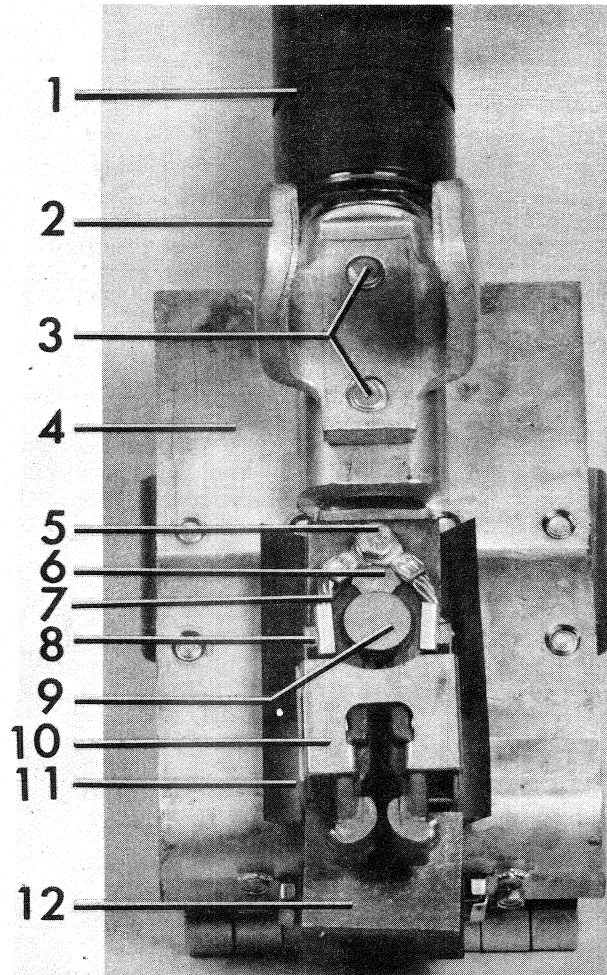
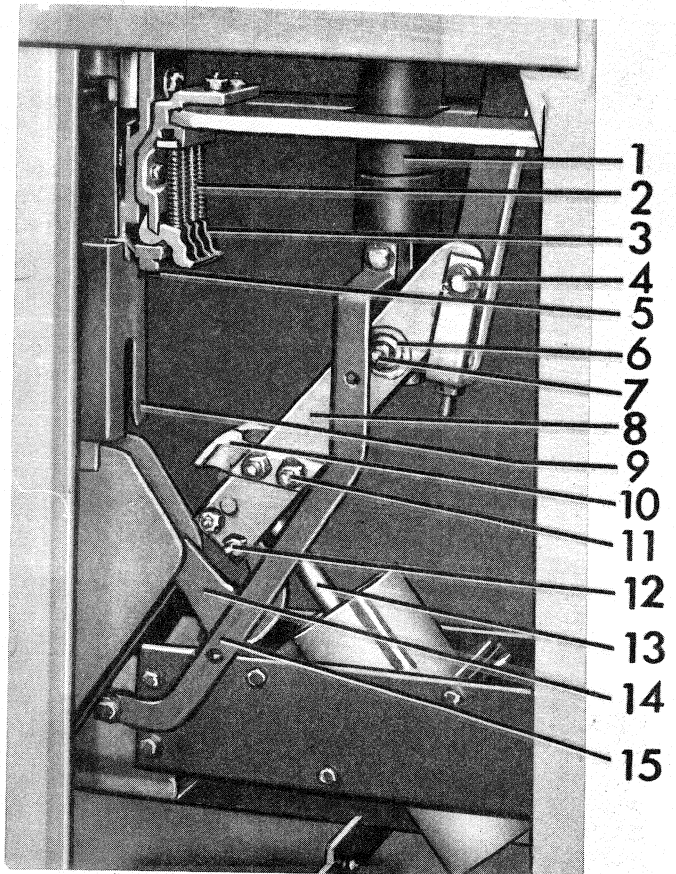

Figure 22. (8025170) Rear Bushing Assembly
Figure 23. (8038805) Contact Assembly
A. Stationary Arcing Contacts (10) Figure 22.
1. Disconnect the contact braids (7) from the contact fingers by removing two bolts and locking plates (8).
3. To disassemble braids from stud plate remove one bolt (5).
4. To disassemble stud plate from contact support, remove two bolts (6).
5. Reassemble in the reverse order, make sure locking plates are properly reassembled with bolts (8).
B. Movable Arcing Contact (14) Figure 23.
1. Remove the assembly bolts (12) making note of quantity and location of shims and spacers used between contacts and contact arms.
3. Close the breaker slowly to check that the movable arcing contact is approximately centered on the stationary arcing contact and that it does not rub on either side of the throat barrier (9).
D. Movable Primary Contacts (10) Figure 23.
1. Disassemble operating rod pin (4), first noting quantity and location of washers in the assembly.
2. Pry contact arms (8) apart enough to disengage pivot pins of piston assembly (13) allowing piston to drop down into its booster cylinder.
3. Rotate the two parts of the contact arm assembly away from each other so assembly bolts (11) are accessible and movable primary contacts (10) can be removed.
E. Contact Arm Assembly (8, 10, 13, 14 Figure 23).
1. Remove connection bar (15).
2. Disassemble hinge pin (7), cup bearing (6), and operating rod pin (4) noting quantity and location of any washers and spacers used in assemblies.
3. The contact arm assembly including the piston assembly (13) can now be removed.
4. When reassembling, first insert piston tube assembly (13) into the booster cylinder and reassemble the cup bearing, making sure the silvered contact washers between the bushing and contact arms (both sides) are in place.
5. Reassemble operating rod pin (4) and connection bar (15).
5. Disassemble the spring retainer (4) by removing mounting bolts (5).
6. Referring to Figure 22, disassemble the contact support (4) and interrupter mounting bracket (2) removing two bolts (3).
7. Reassemble in the reverse order. The interrupter mounting bracket (2) is not symmetrical and must be assembled correctly to orient the interrupter properly on the breaker. The longest projection of the bracket should be toward the lower end of the bushing.
3. Remove the connection bar (15) Figure 23, cup bearing (6) and hinge pin (7).
5. When reassembling, first mount the bushing and assemble the cup bearing (6), contact arm (8), and replace pin (7) being sure the silvered contact washers between the bushing and contact arms are in place. The contact surfaces at the hinge point of the contact blade and bushing should have a thin coating of D50H47 grease.